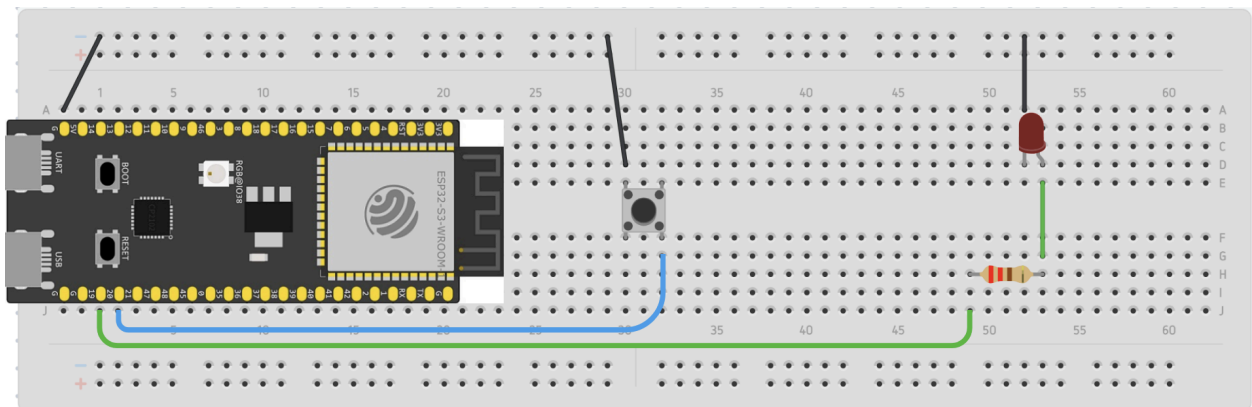

Figure 3: Controlling an external LED through a tactile switch
- Build the circuit according to *Figure 3* above.